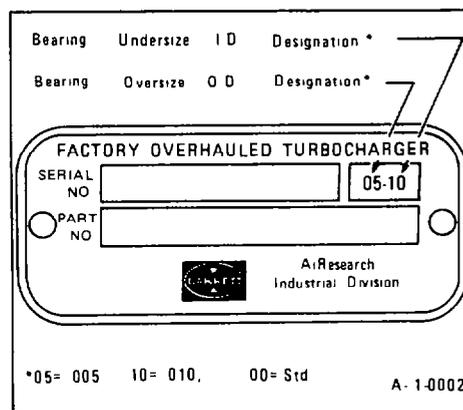

Fig. 147 — Identifying Nameplate
2. A remanufactured unit is identified by a nameplate attached to the backplate (item 7) detailing bearing sizes (see fig. 147).